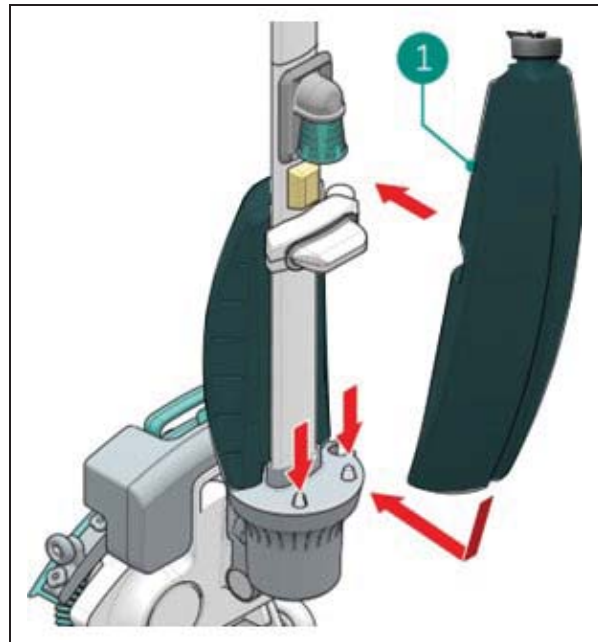

Figure 12
1. Put the tank (Figure 12, pos 1) on the i-mop® Lite with the bottom first.